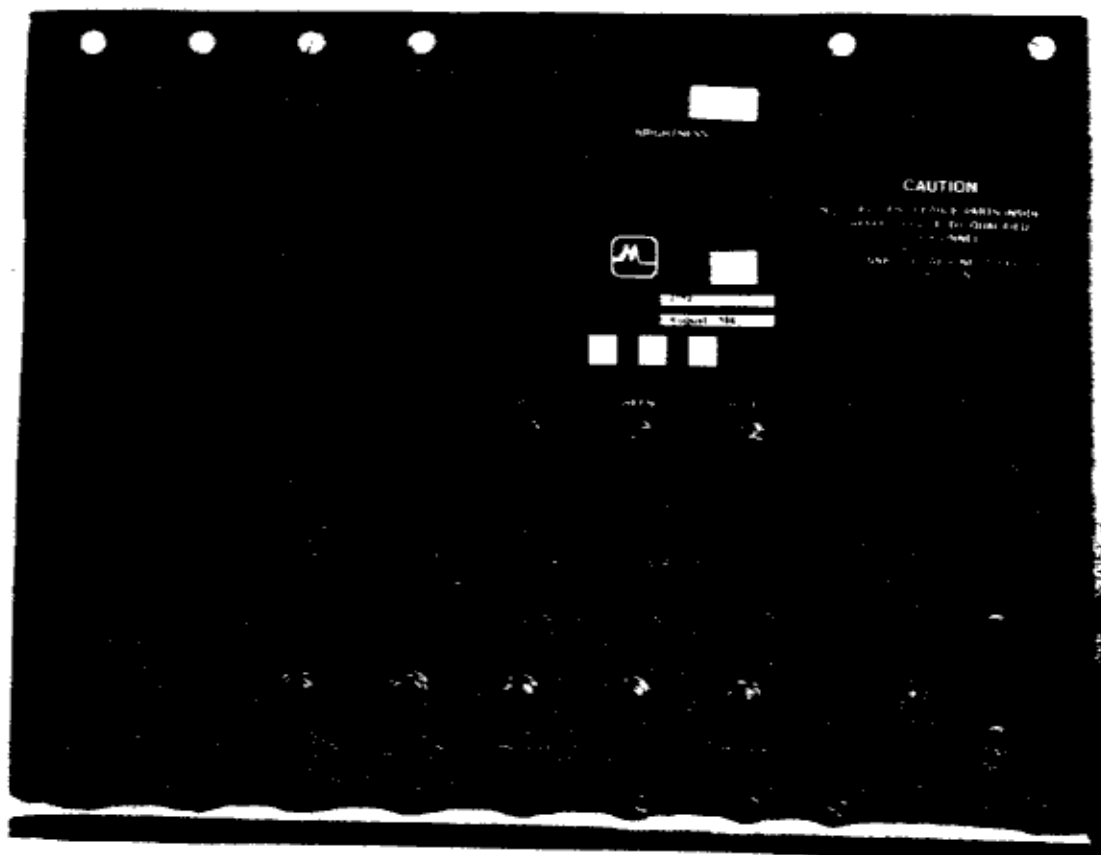

Figure 2-1 Monitor Rear Panel Connections and Switches
Monitor rear panel switches are shown in Figure 2-1 and are described below.
Located on the rear panel of the monitor (see Figure 2-1) are the fuse, power receptacle, and five video connections.
The I/O connector block is beneath the power input side of the monitor (see Figure 2-1). On the rear of the I/O connector block are inputs labeled: Hardcopy, On/Reset Off, and Kyb/Tablet; these inputs are for cables from the floor unit. The keyboard/tablet connects to the front of the I/O connector block.
3. Using the attached floor unit cables, connect the video cables (labeled: Horizontal, Vertical, Red, Green and Blue) to the rear panel of the monitor (see Figure 2-1). The monitor rear panel inputs are labeled: Horizontal Deflection, Vertical Deflection, and three inputs labeled Video Amplifier (the video amplifiers are also labeled Red, Green, and Blue).
4. From the floor unit, connect the HARDCOPY, the ON/RESET OFF and the Keyboard/Tablet cables to the rear of the I/O connector block (see Figure 2-1). These inputs are labeled: HARDCOPY, ON/RESET OFF, KYB/TBLT.
6. From the keyboard, connect the keyboard cable to the front of the I/O connector block (see Figure 2-1).
After completing the installation, perform 4635B power-up as follows (refer to Figures 2-1, 2-2, and 2-3):